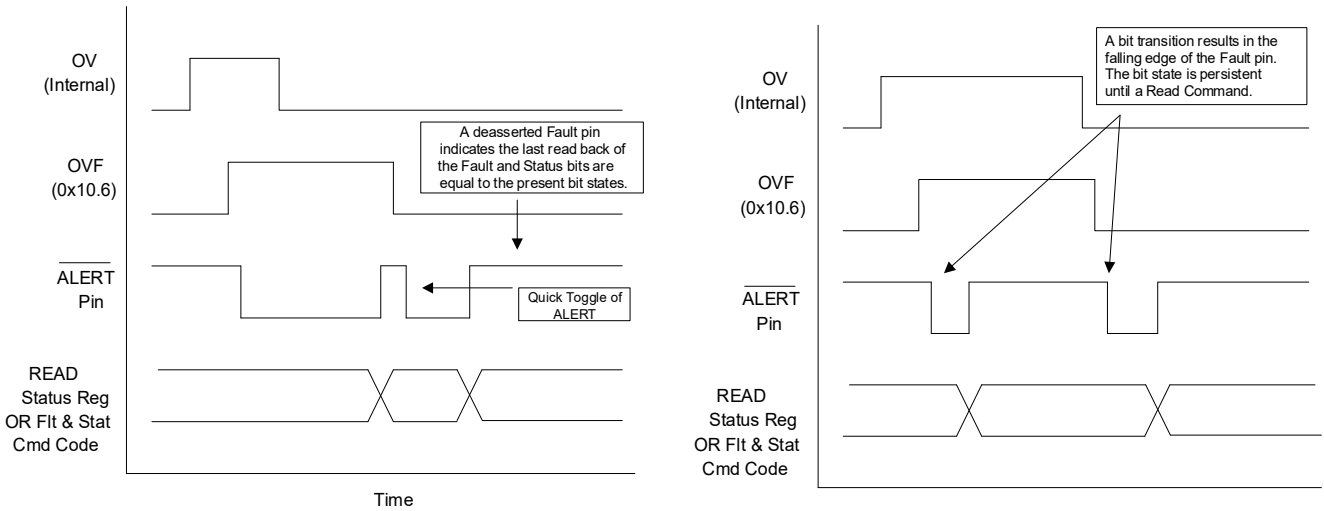

Figure 41. (A) De-asserted Fault, (B) Persistent Fault
Figure 41 (A) and (B) are timing diagrams for different Fault or Status bit sequencing scenarios. Figure 41(A) is an example of two fault or status changes before a read. In this case, an OV detection sets OVF then the OV clears before a read. The OVF and the OV clear each cause separate $\overline{\text{ALERT}}$ s. Figure 41(B) is an example of single persistent fault or status bit changes, each followed a read that releases $\overline{\text{ALERT}}$.